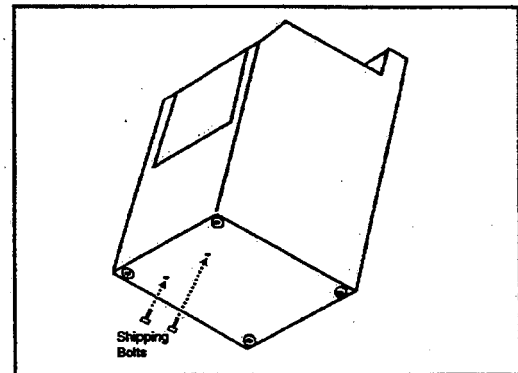

Figure 1-4
3. Locate the two (2) ½" hex-head shipping bolts extending up through the bottom of the base (Figure 1-4). The shipping bolts are near the center of the base toward the front of the washer. Remove both bolts, freeing the tub and suspension. Do not be alarmed should the tub assembly shift when the last bolt is removed. Some shifting of the tub is normal.